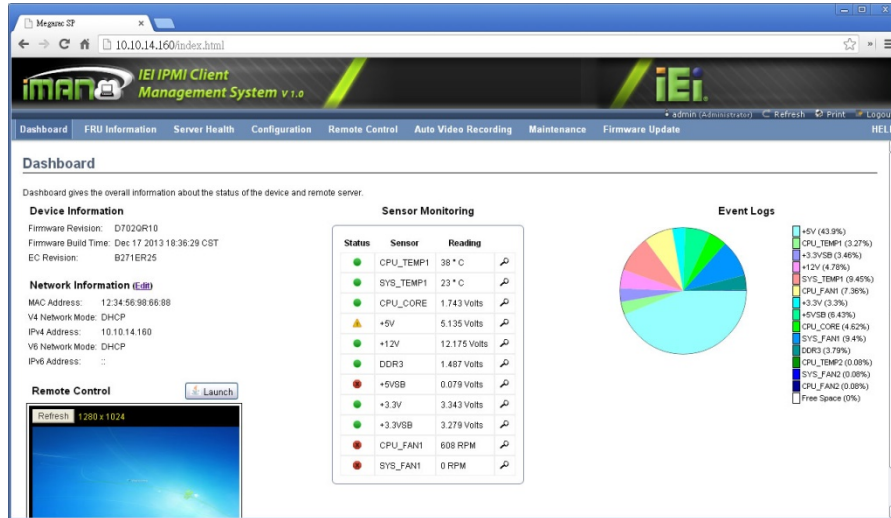

Figure 3-17: IEI iMAN Web GUI
- Step 6:** The IEI iMAN Web GUI appears (**Figure 3-17**).